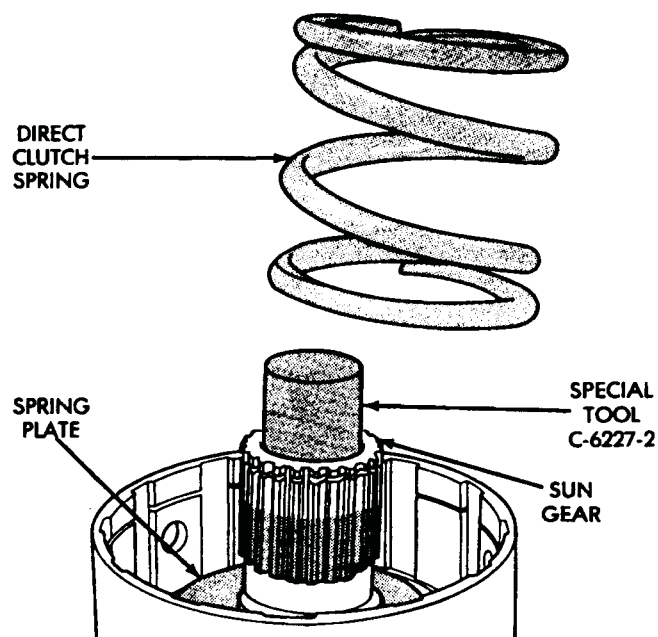

Fig. 55 Direct Clutch Spring Installation
(18) Install direct clutch spring. Be sure spring is properly seated on spring plate (Fig. 55).